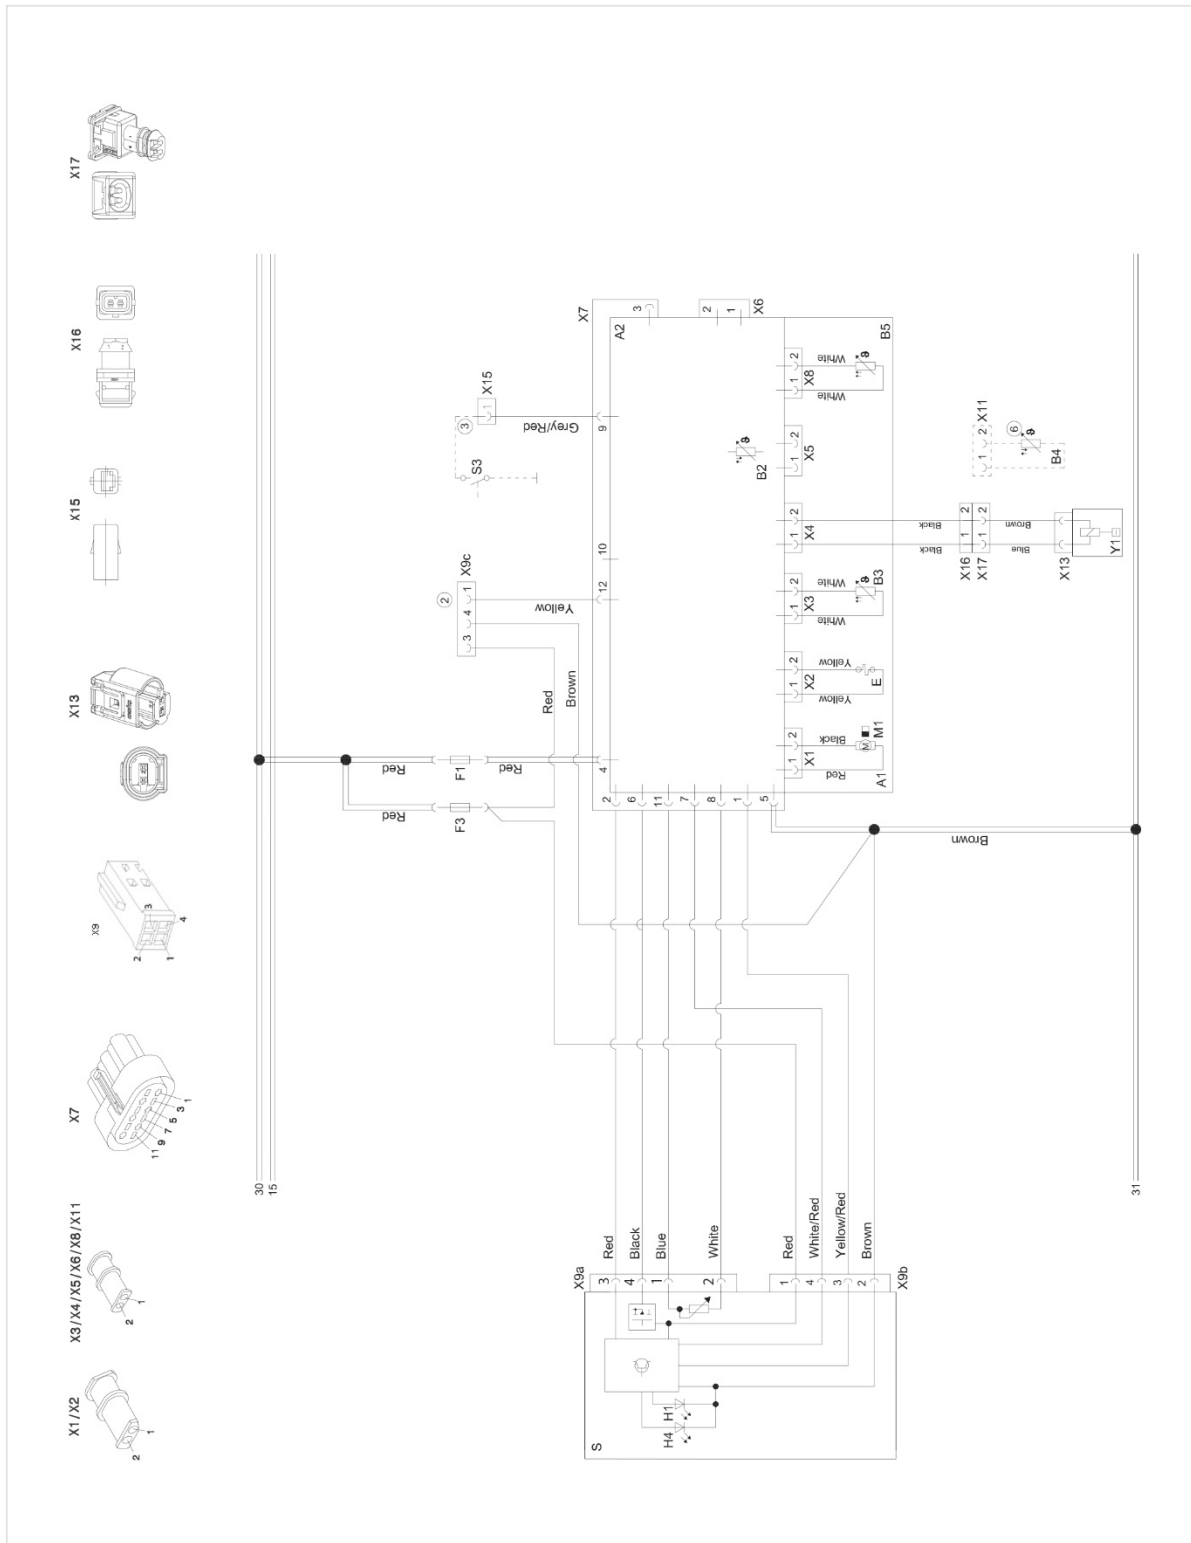

Figure 16: Wiring Diagram for Air Top Evo 40 /55, 12V/24V with MultiControl (MC04) control element
- Air Top Evo Multi Control (MC04) control element (Figure 16)